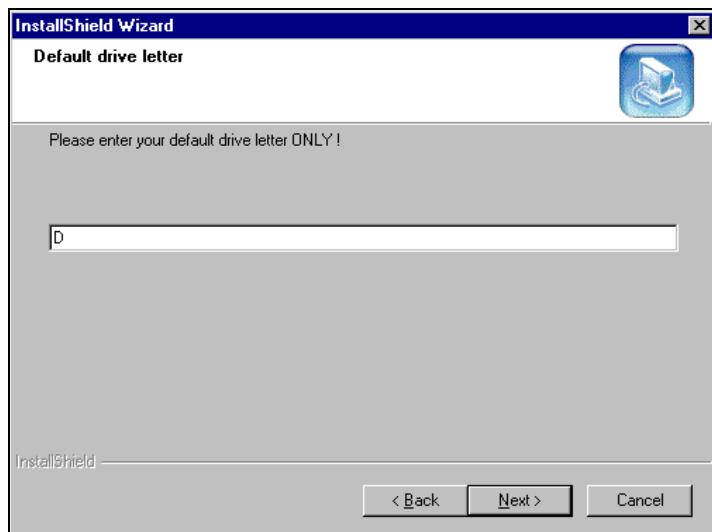

Figure 67. Enter the system default drive letter
3. Enter your default system drive letter, as shown in Figure 67. The letter determines on which drive R/3 and TDP for R/3 will be installed.